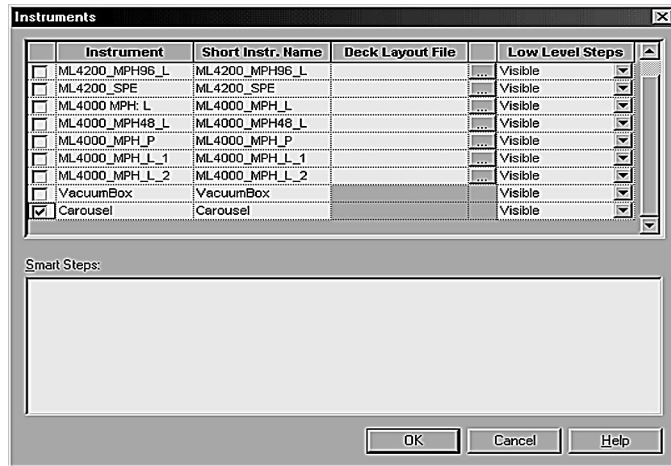

Figure 17: Instruments window
4. Select Method > Instruments from the Hamilton Method Editor window. The Instruments window appears (figure 17).